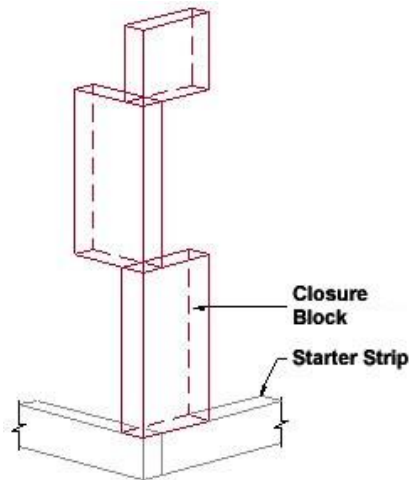

Fig. 17
- a. Install 12 in (305 mm) wide Closure Blocks on alternating sides of inside and outside corners as shown in Figure 17.